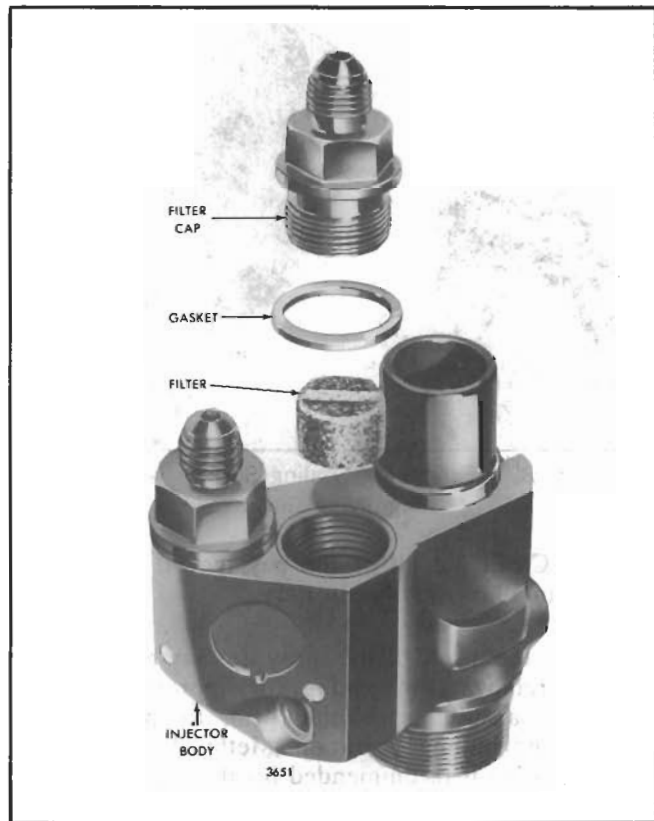

Fig. 36 - Details of Injector Filters and Caps and Their Relative Location
1. Insert a new filter, dimple end down, slotted end **up**, in each of the fuel cavities in the top of the injector body (Fig. 36).